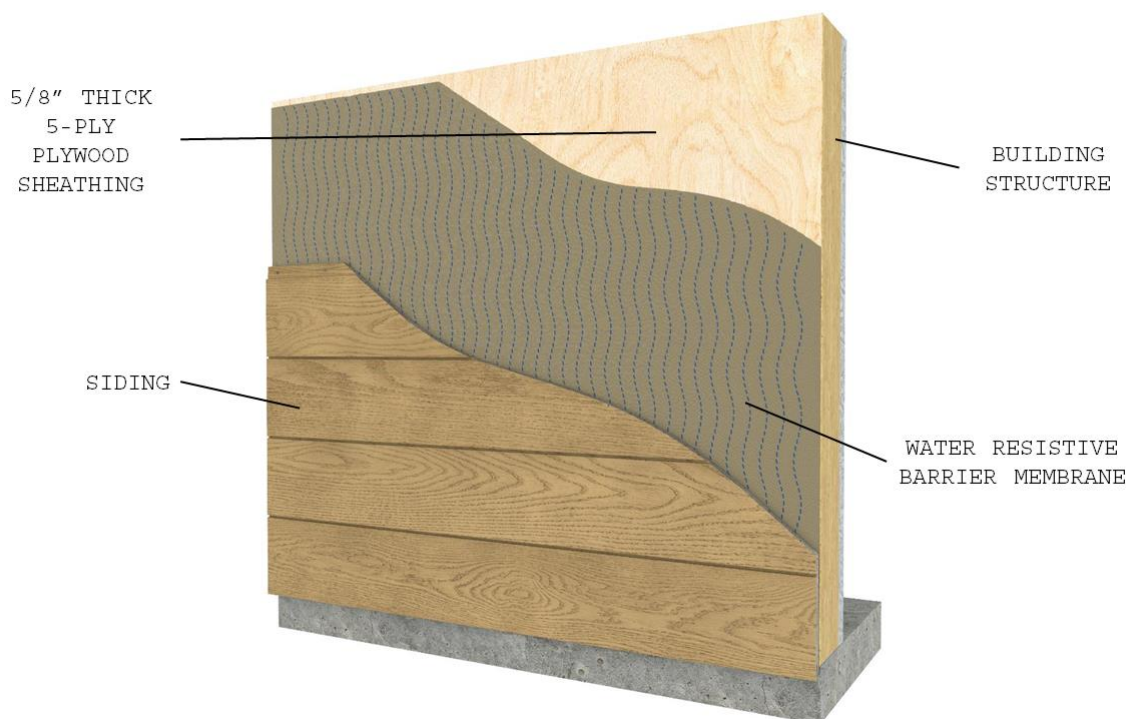

Figure 1. Installed Millboard Siding with Plywood Backer
- 1.2 For HVHZ applications, Millboard Composite Siding products must be installed on walls sheathed with Exposure 1-rated $\frac{5}{8}$ " (15.9 mm) thick plywood comply with DOC PS-1 or PS-2 and shall be applied to minimum 2 x 6, No. 2 Spruce-Pine-Fir or 18-gauge, 2 x 6 CFS studs spaced not more than 16" (406 mm) on center as depicted in **Figure 1**.